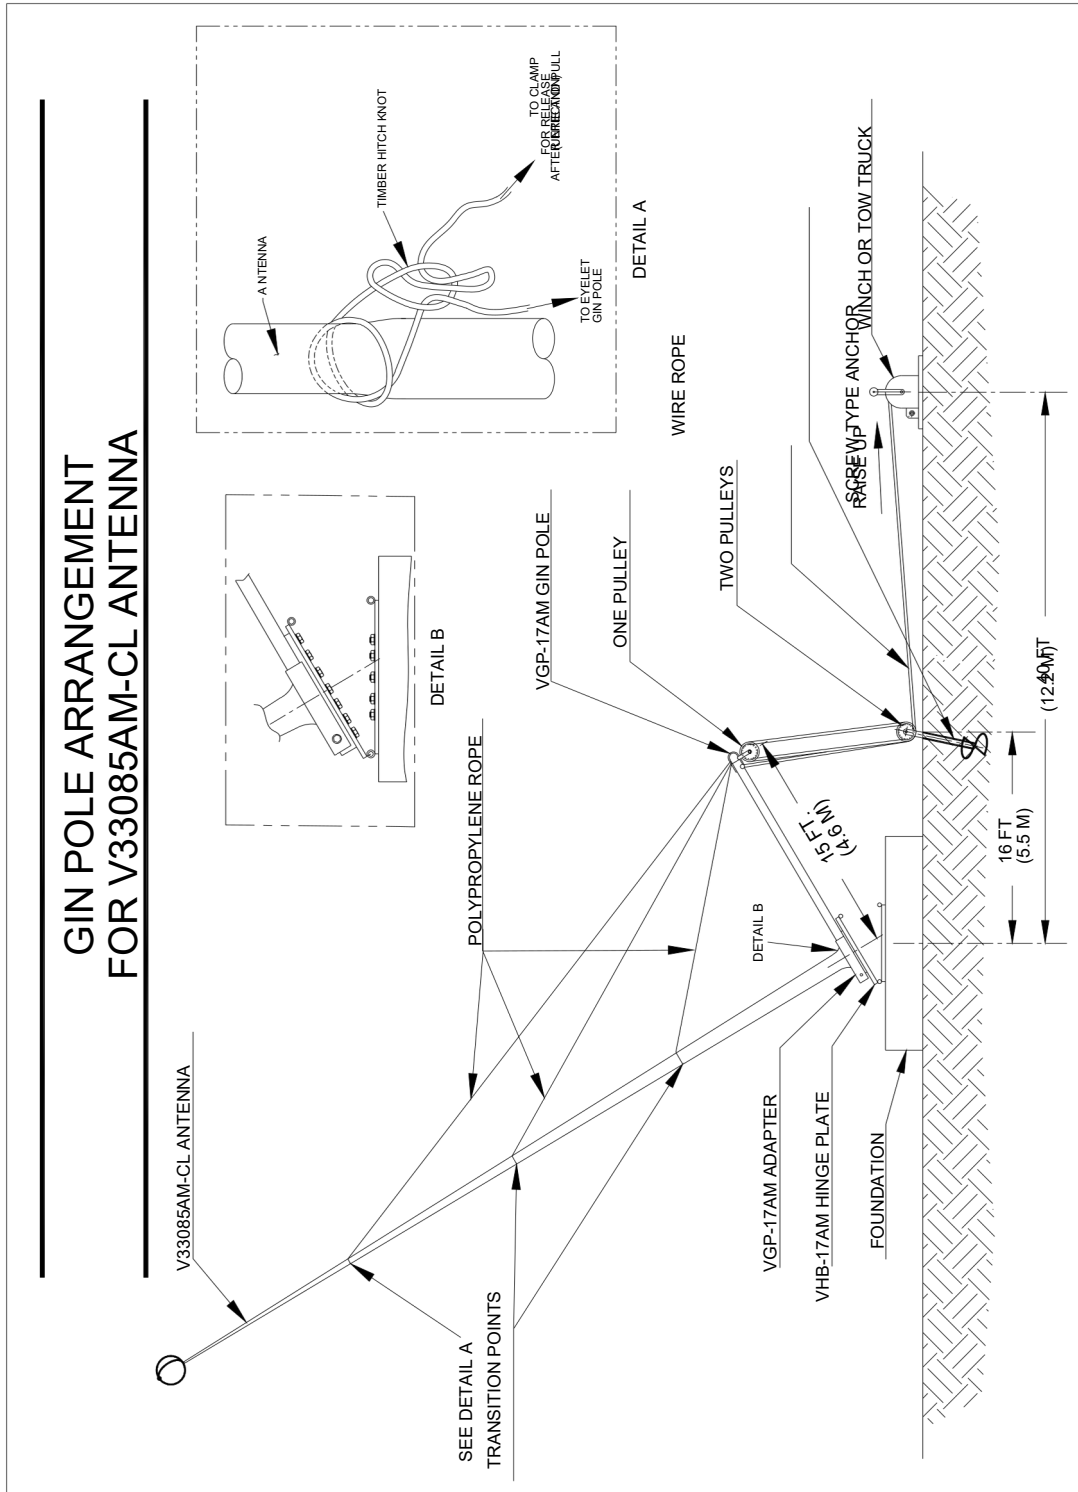

Figure 4-1 - Gin Pole Arrangement
The following steps should be followed while assembling the V33085AM-CL antenna (see Figure 4-1).
- (10) Assemble the fourth and fifth sections (items 4 and 5 of Table 5-1) by repeating steps 6 to 8.
- (11) After all sections are assembled, assemble the Valcosphere and Top-Hat assembly (if applicable) to the top of the fifth section with adapter provided. The antenna now is ready to raise to its final position.
- (12) Tie the three ropes (from gin pole eye) to the first three transition points on antenna (see Figure 4-1). A timber hitch knot is recommended.
- (13) Erect antenna by applying a gradual and constant pull on the rope referred to as the “Pulling Force” (a winch or vehicle is recommended).
- (14) Once the antenna is in the vertical position, insert retainer pin back into hinge plate, secure with tension pin. Use bolts (supplied) to secure upper and lower plates of the hinge plate together.
- (15) Remove the gin pole. Electrical connections can now be made.